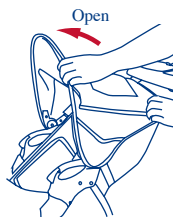

Fig. 10
**To open the canopy:** push forward on the front edge of the canopy while holding the rear of canopy in place. (Fig. 10)